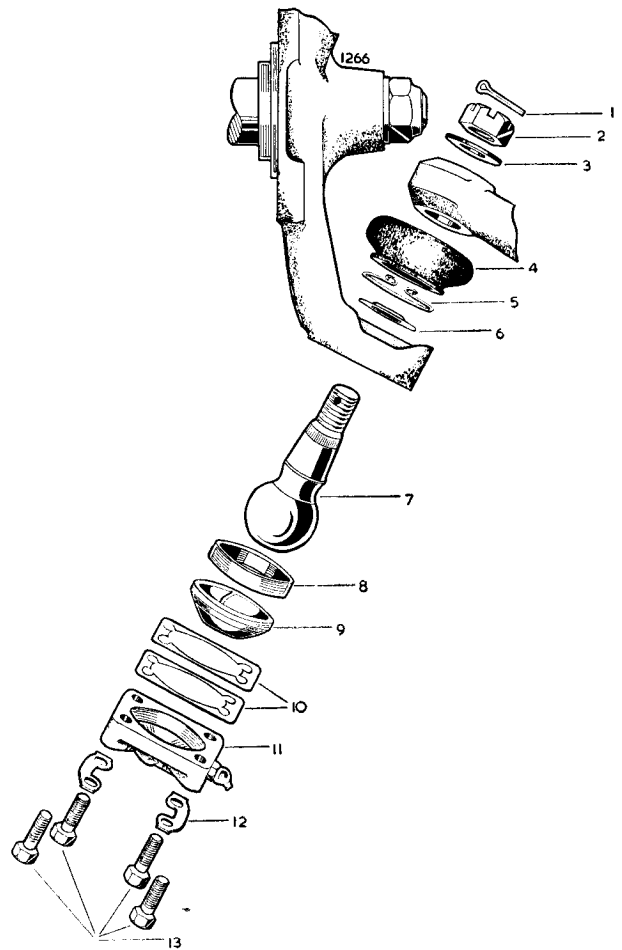

Fig. 15. Exploded view of the Lower Wishbone Ball Joint
Remove the split pin (1) (Fig. 15), nut (2) and plain washer (3) which secure the ball joint to the lower wishbone.
Release the wire clip (5) (Fig. 15) and remove the rubber gaiter (4). Withdraw the retainer (6) from the top of the ball pin (7).